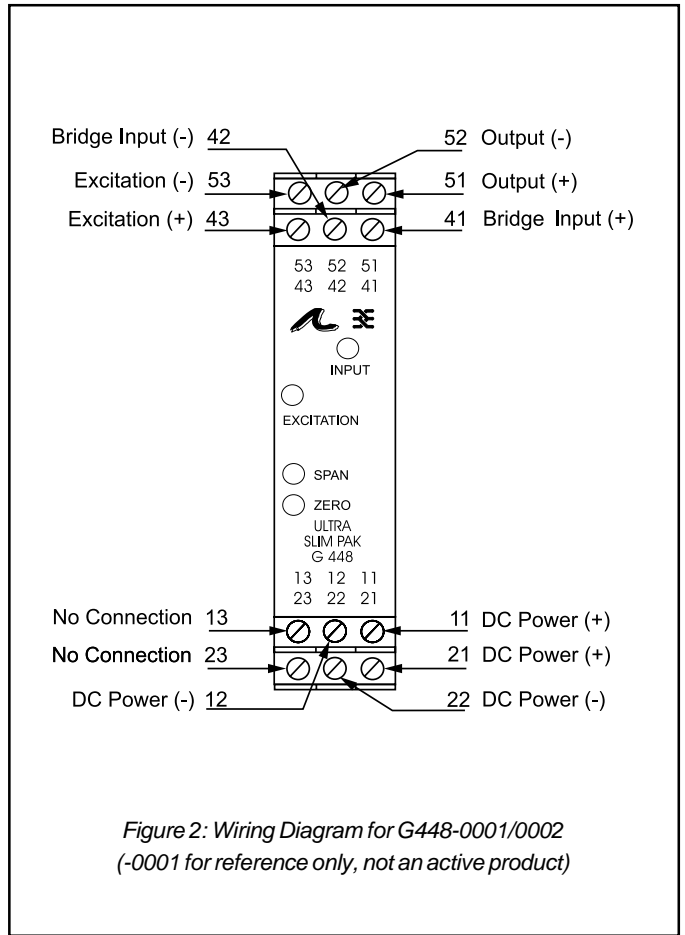

Figure 2: Wiring Diagram for G448-0001/0002
1. After configuring the DIP switches, connect the input to a calibrated millivolt source. Connect the output to the device (or a load equivalent to the device) and apply power. (see Wiring Diagram, Figure 2 or 3).